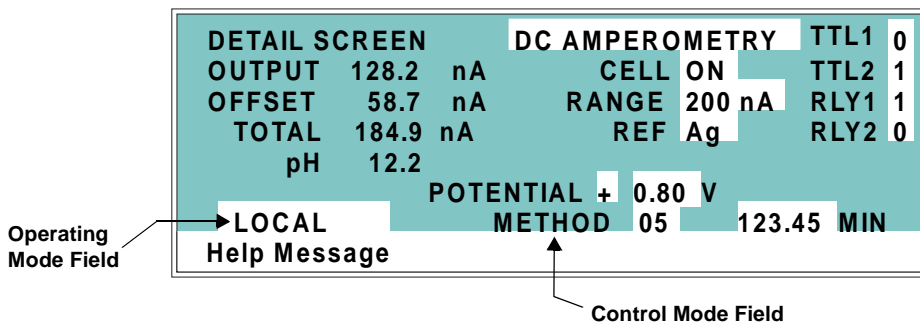

Figure 3-3. Detail Status Screen—Local Mode, Method Control
2. To select the control mode, position the cursor in the control mode field (see Figure 3-3) and press **Select Δ** or **Select ∇** to toggle to **DIRECT CNTRL** or **METHOD**.